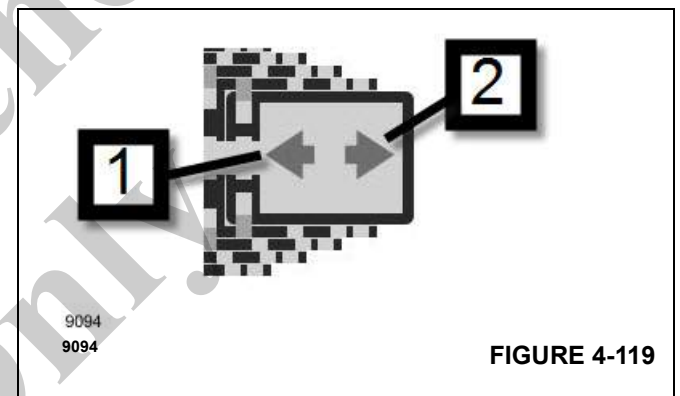

FIGURE 4-119
Telescoping will only start if left arrow for retracting (1), (Figure 4-119) or right arrow for extending (2) is shown in the indicated location of the operating display screen (either the semi-automation or manual telescoping screen).